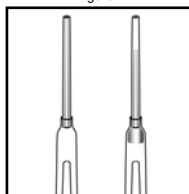

Figure 3
5. **Required for K-5510D only:** Pull the VACUette into a vertical position. A small portion of the collected sample should fall into the sleeve of the VACUette tip (fig. 3).